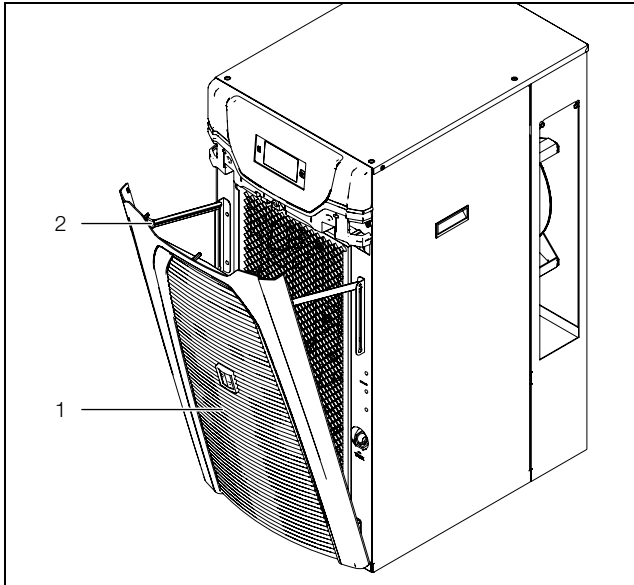

Fig. 38: Flip open the louvred grille 3334400 and 3334450
- Open the louvred grille below the infill panel by flipping forwards (fig. 38, item 1).